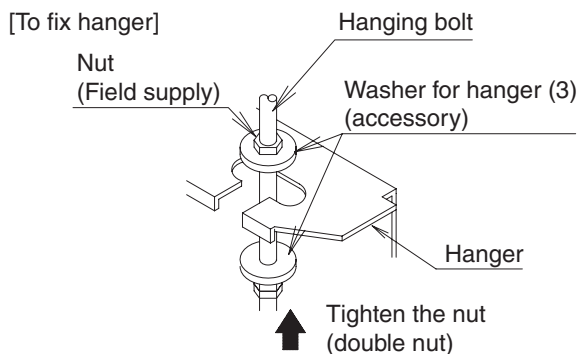

Fig. 7
- (1) Install the indoor unit temporarily.
- Fix the hanger to the hanging bolt. Make sure to securely fix the hanger with the nut and the washer for hanger (3) from the upper and lower side. **(Refer to Fig. 7)**